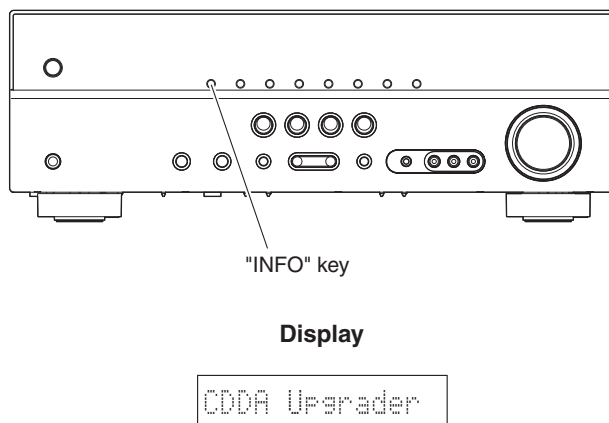

Fig. 2
1. While pressing the "INFO" key of this unit, connect the power cable of this unit to the AC outlet. (Fig. 2)
The FIRMWARE UPDATE mode is activated and "CDDA Upgrader" is displayed. (Fig. 2)